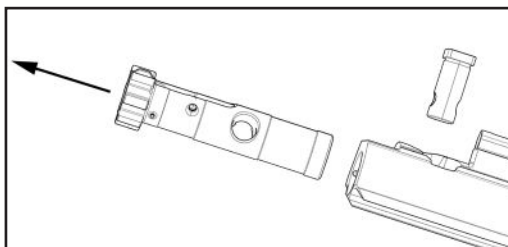

Fig. 41 – Slide the Bolt Head out
- f. Slide the bolt head from the front of the bolt carrier (Fig. 41).